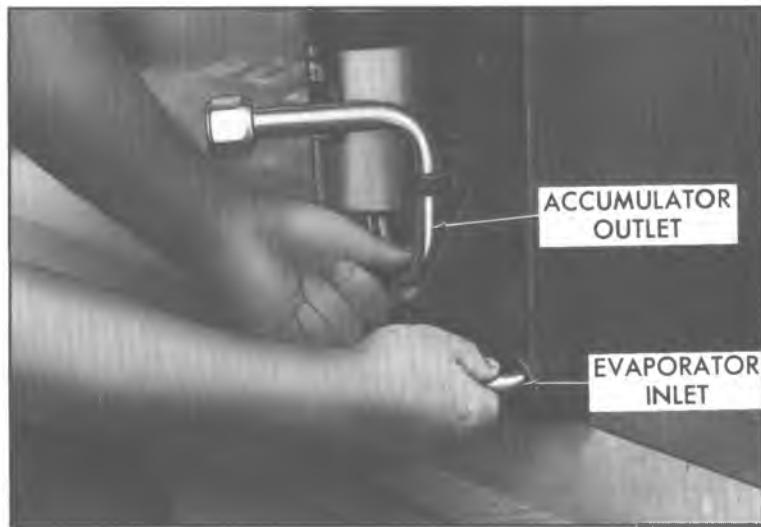

Fig. 52.-Checking Evaporator Inlet and Accumulator
7. Feel temperature of evaporator inlet and accumulator outlet pipes with compressor engaged (fig. 52).